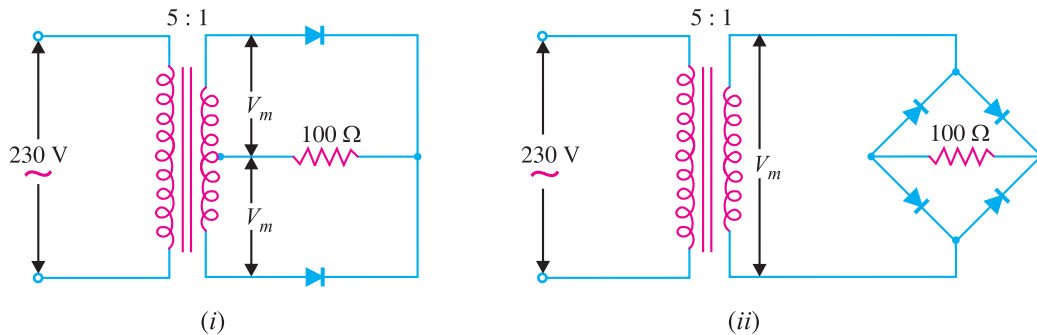

Fig. 6.33
**Example 6.19.** Fig. 6.33 (i) and Fig. 6.33 (ii) show the centre-tap and bridge type circuits having the same load resistance and transformer turn ratio. The primary of each is connected to 230V, 50 Hz supply.